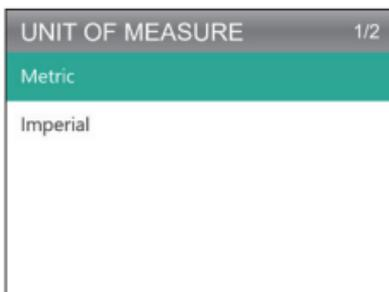

Figure 8.1.4
3. To change the unit of measure, select Unit of Measure and press [OK]. You can select Imperial or Metric (See Figure 8.1.4).